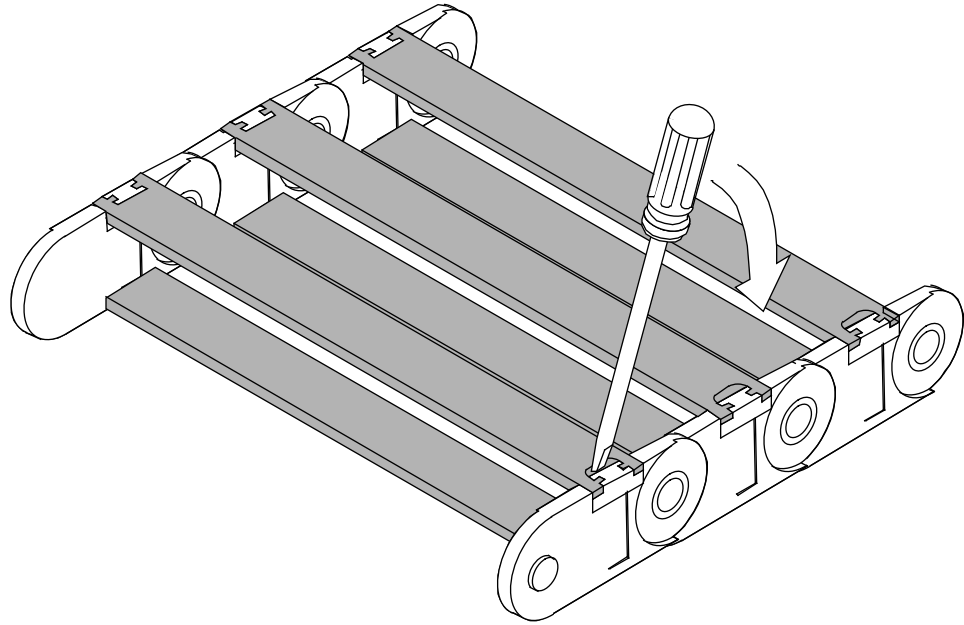

Figure 8. Flexible Cable Way Crossbars
8. Pry open each crossbar of the cable way, using a standard 1/8-in flat-bladed screwdriver and leave the inner side attached. Refer to Figure 8.